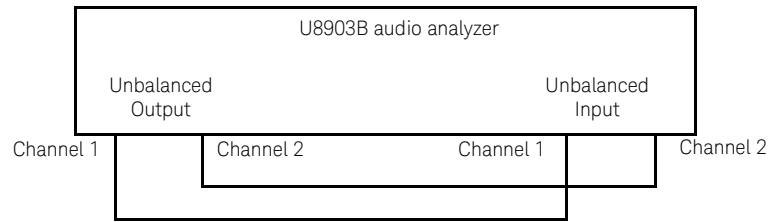

Figure 2-4 U8903B audio analyzer connections for crosstalk verification
- 1 Connect the U8903B Unbalanced output channel 1 and channel 2 to its own Unbalanced input channel 1 and channel 2 as shown in **Figure 2-4**. Preset the U8903B audio analyzer.